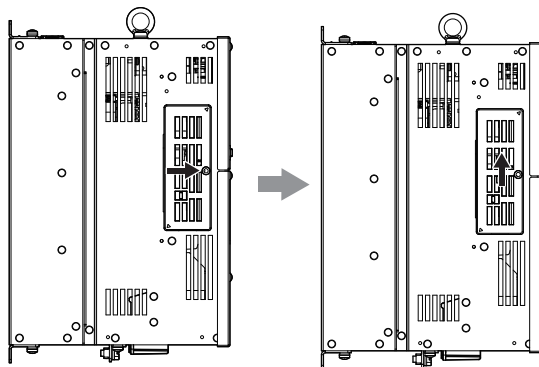

Figure 4.35 Sliding the CN19 Connector Cover
2. Slide the CN19 connector cover from the drive as shown in Figure 4.35.